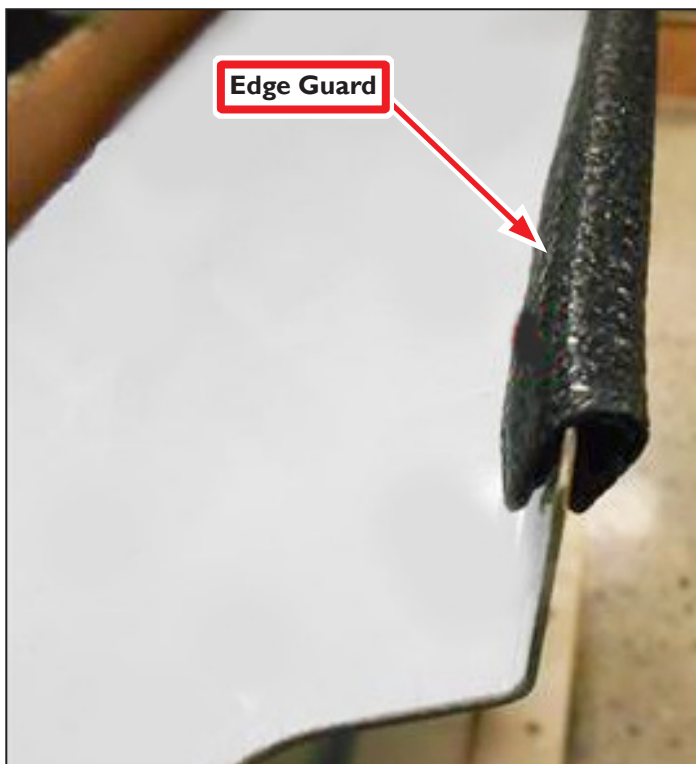

Figure 11
2. Slip Edge Guard over top edge of Front Splash as shown in **Figure 11**.